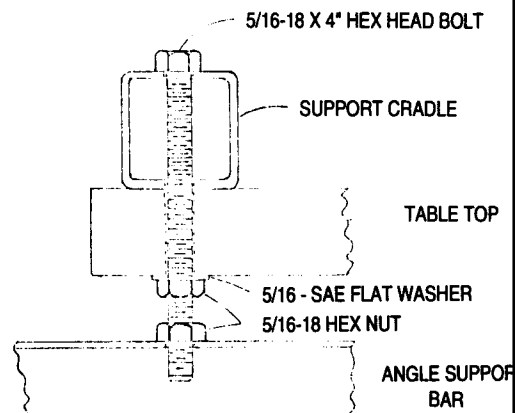

FIGURE 1A
m.)	(4)	F05006-4	5/16 - 18 x 4" Hex Head Bolts (Full Thread)
n.)	(6)	F05010-17	5/16 - 18 Hex Nuts
o.)	(4)	F05011-17	5/16" SAE Flat Washers
p.)	(1)	P06147	3/16" Hex Key
q.)	(8)	F05007-8	3/8 - 24 x 1/2" Set Screws
13. In the front mounting holes, assemble the bolts and nuts as shown in Figure 1A.